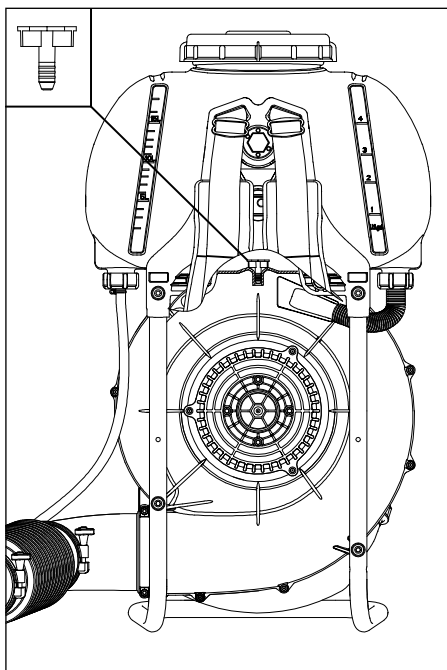

Figure 3 Remove the grid
- Unscrew the red liquids tank cap; remove the white plastic cap from the bottom of the tank, at the center, as shown in the box at the top left of Figure 3.